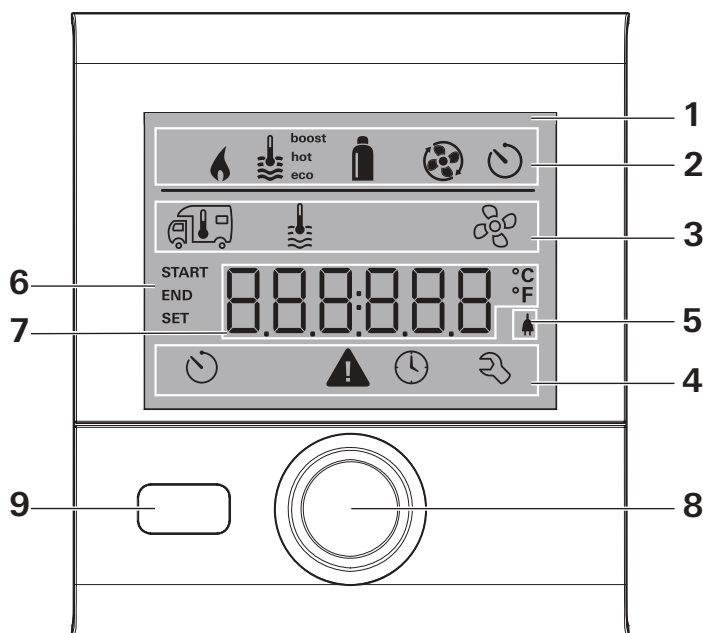
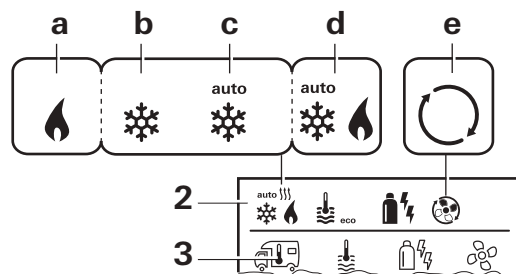

Fig. 1
Fig. 4
The functions of menu lines (Fig. 1 – 3, 4) of the CP plus VarioHeat can be selected in any sequence. The operating parameters are shown in the status line (Fig. 1 – 2) or in the display (Fig. 1 – 6).
- Use the rotary push button (Fig. 1 - 8) to select the icon in the menu line (Fig. 4 – 3).